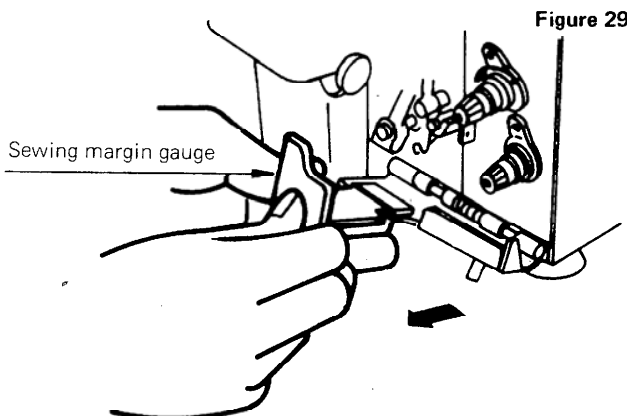

Figure 29
- (1) Open the front cover and remove the sewing margin gauge and insert the knife cover. Align the two round red marks in the same direction (Figure 29 & 30).